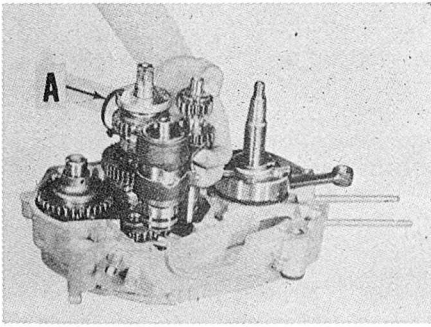

Fig. S9-10—A special gear holding tool (A) is available to aid in transmission installation.
starter idle gear (2), flat side down, and the second thrust washer (3). Assemble third gear on drive shaft with 18 steel balls. A special tool is available from Suzuki to secure the gear in position for assembly. Transmission and gear shift drum assembly should then be placed in the right case as a unit (See Fig. S9-10).